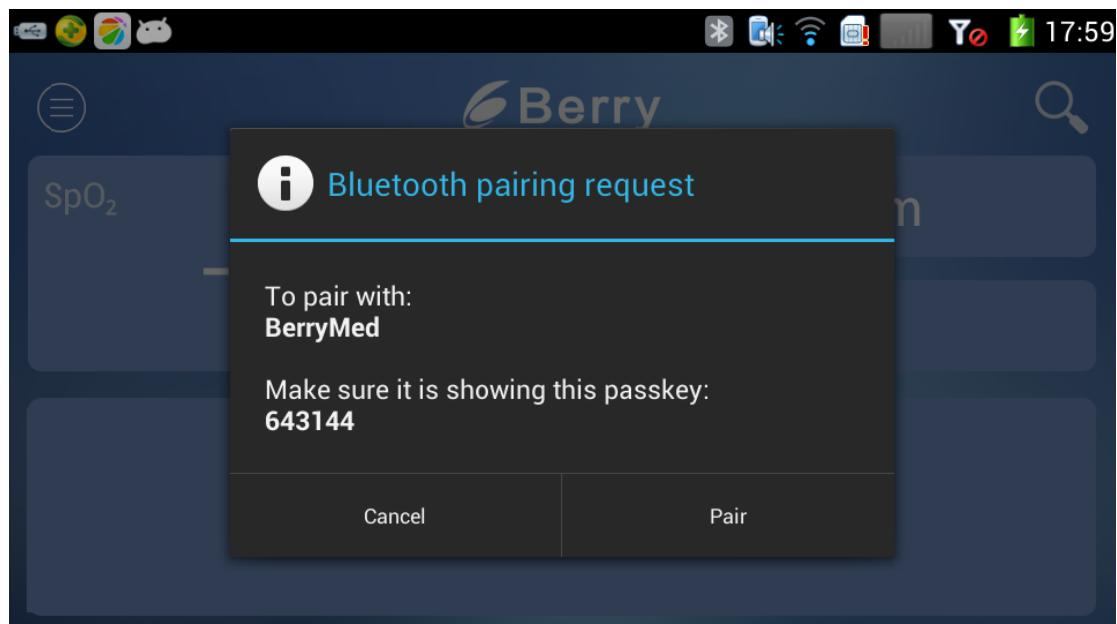

Figure 15
g. Wait to search out the equipment, click “BerryMed” and enter the following interface. (as shown in **Figure 15**)